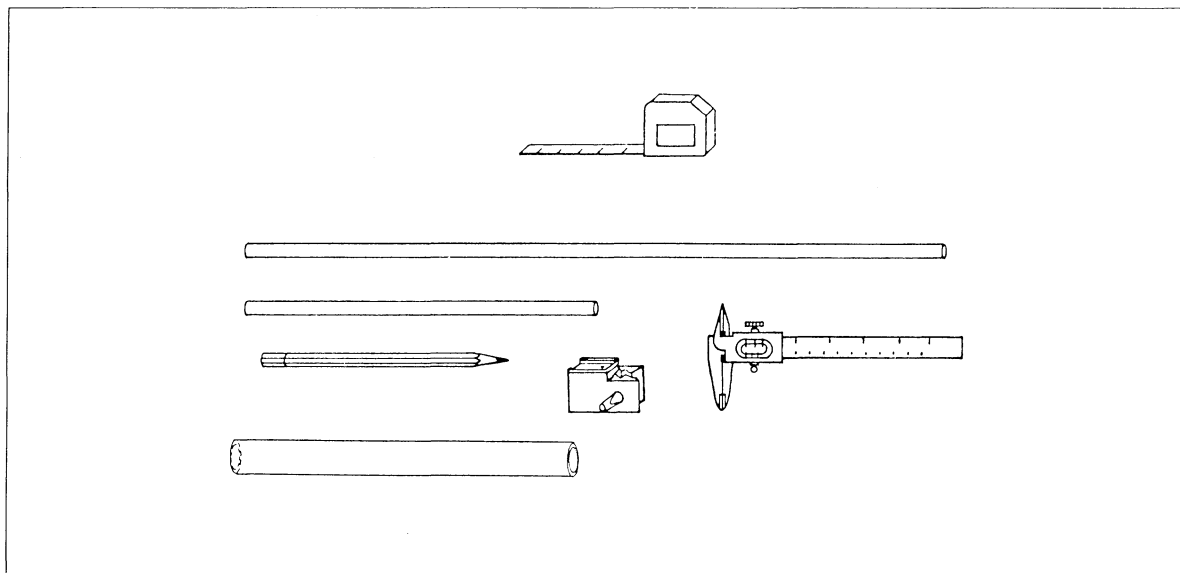

Fig. 1 ► 1.
1. Lay out all the items of apparatus ready for use on the workbench, as shown in fig. 1.